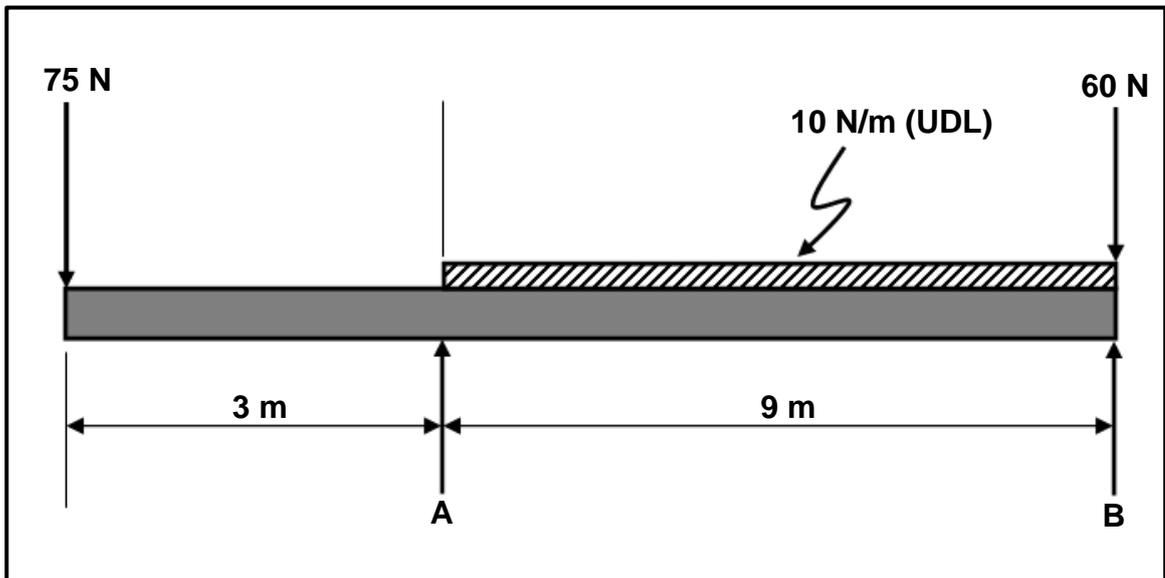

FIGURE 8.2
- 8.2 FIGURE 8.2 below shows a uniform beam that is supported by two vertical supports, **A** and **B**. Two vertical point loads and one uniformly distributed load (**UDL**) are exerted onto the beam.